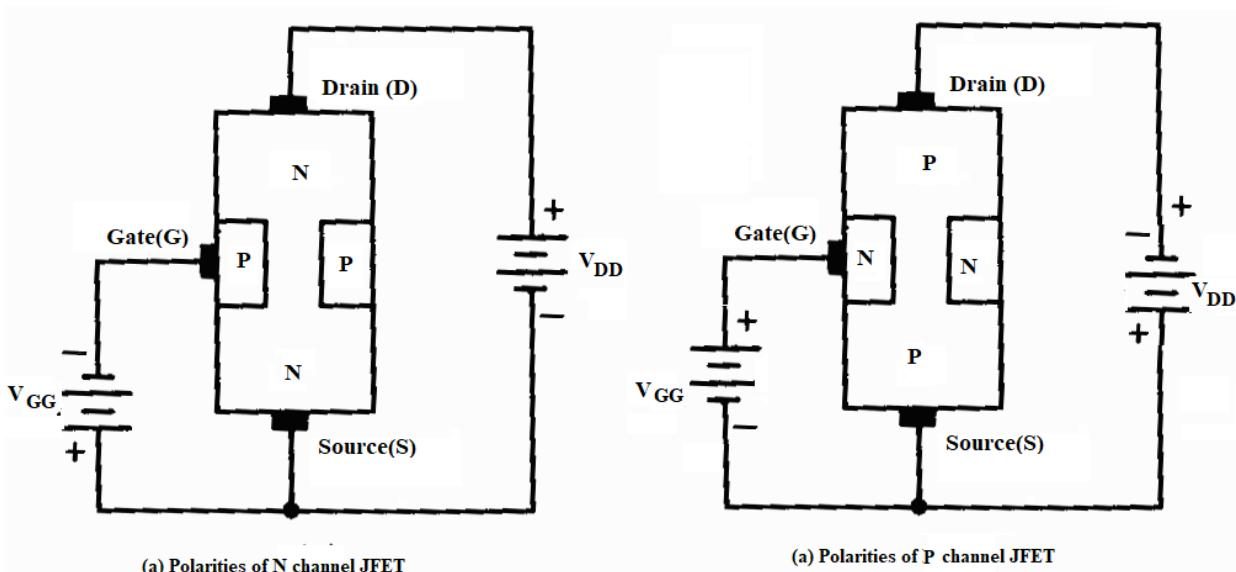

Figure 3.3 Polarities of JFET
Schematic symbol of JFET: As shown in Figure 3.3(c) the vertical line in the symbol may be thought as channel and source and drain D connected to the line. Direction of the arrow to the gate indicates the direction of gate current flow hence for N-channelFET arrow at the gate junction point into the device and in P-channelit is away from the device.
3.3.2 JFET polarities: As shown in Figure 3.3, for the proper functioning of JFET the voltage between source and gate is such that the gate is always reverse biased, i.e. gate terminal is connected to –ve terminal of battery in N-channelJFET while gate is connected to + terminal of battery in P-channelJFET, also the source and drain terminals are interchangeable, i.e. any of two end can be used as Source and other as drain.